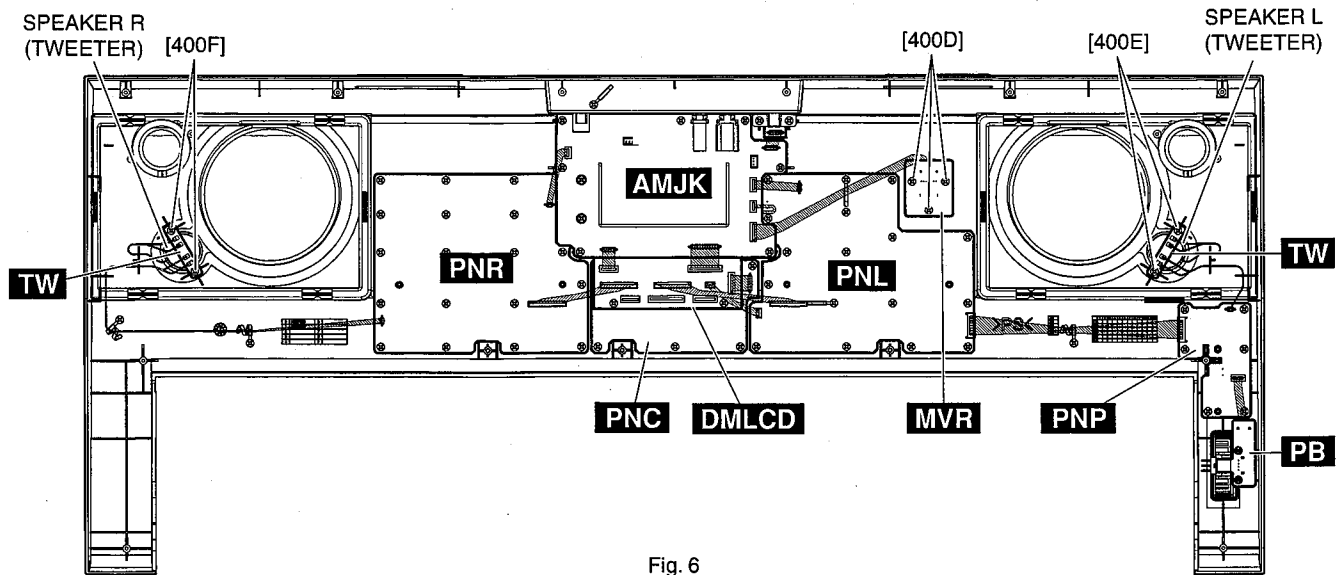

Fig. 6
5-3. Remove the three (3) screws marked [400D]. The MVR circuit board can then be removed. (Fig. 6)
Remove the connector assembly TW and speaker cable soldered to the TW circuit board (L) and remove the two (2) screws marked [400E]. The TW circuit board (L) and speaker L (tweeter) can then be removed. (Fig. 6)
Remove the connector assembly TW and speaker cable soldered to the TW circuit board (R) and remove the two (2) screws marked [400F]. The TW circuit board (R) and speaker R (tweeter) can then be removed. (Fig. 6)